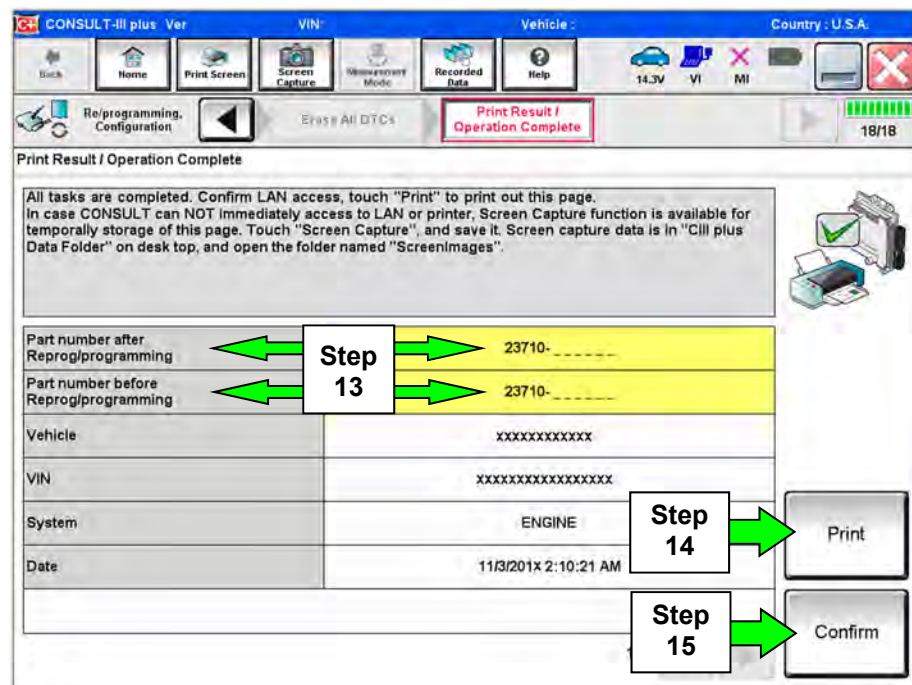

Figure 8
12. When the entire reprogramming process is complete, the screen Figure 8 will display.
14. Print a copy of this screen (Figure 8) and attach it to the repair order for warranty documentation.